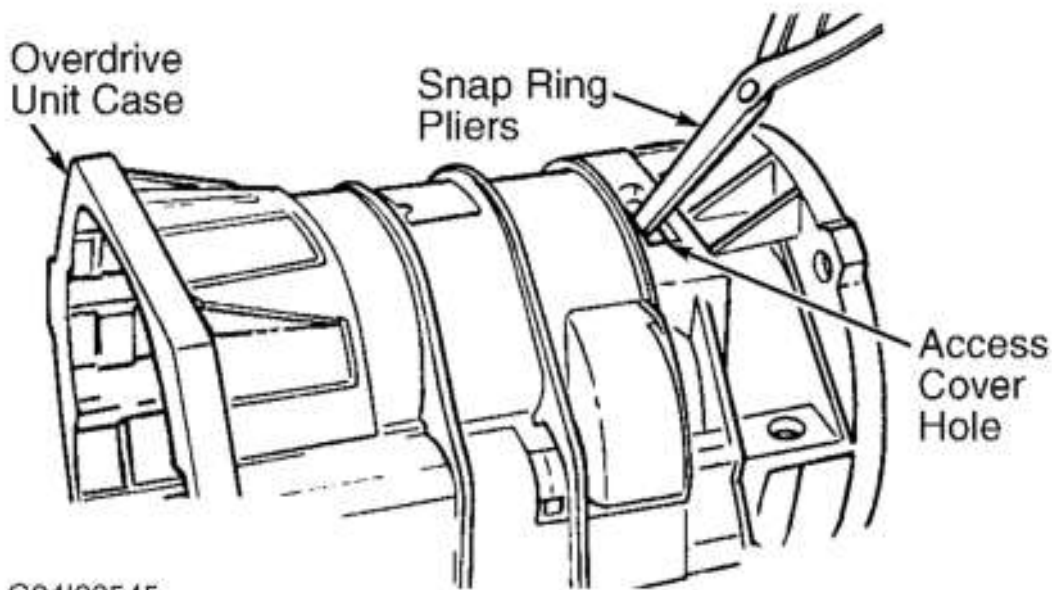
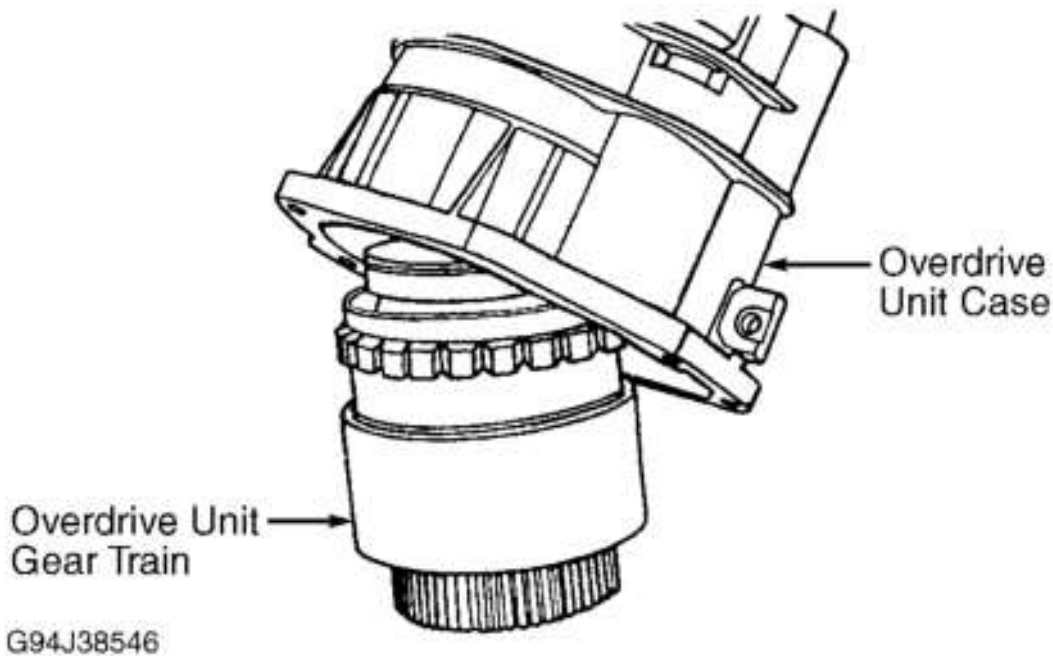

Fig. 42: Releasing & Installing Bearing From Retaining Ring
Fig. 43: Removing Overdrive Unit Gear Train
2. Remove waved snap ring and reaction plate snap ring. Both snap rings are installed in same groove in overdrive unit case. Remove access cover from top of overdrive unit case for access to front bearing retaining ring. See Fig. 42 .
3. Using snap ring pliers, expand front bearing retaining ring while pushing output shaft forward to release front bearing from retaining ring. See Fig. 42 . Remove overdrive unit gear train from overdrive unit case. See Fig. 43 .
6. Install overdrive unit case over gear train assembly. Using snap ring pliers, expand bearing retaining ring through access hole cover. See **Fig. 42** .